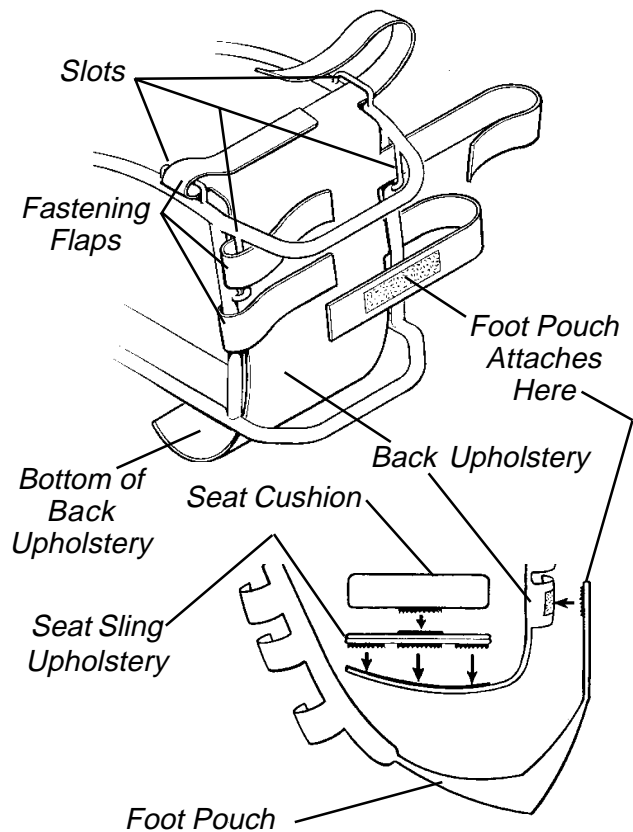

FIGURE 1 - ADJUSTING/REPLACING BACK UPHOLSTERY
**ADJUSTING/REPLACING BACK UPHOLSTERY (FIGURE 1)**
1. Unlatch the three (3) fastening flaps that secure the back upholstery to the racing chair frame.